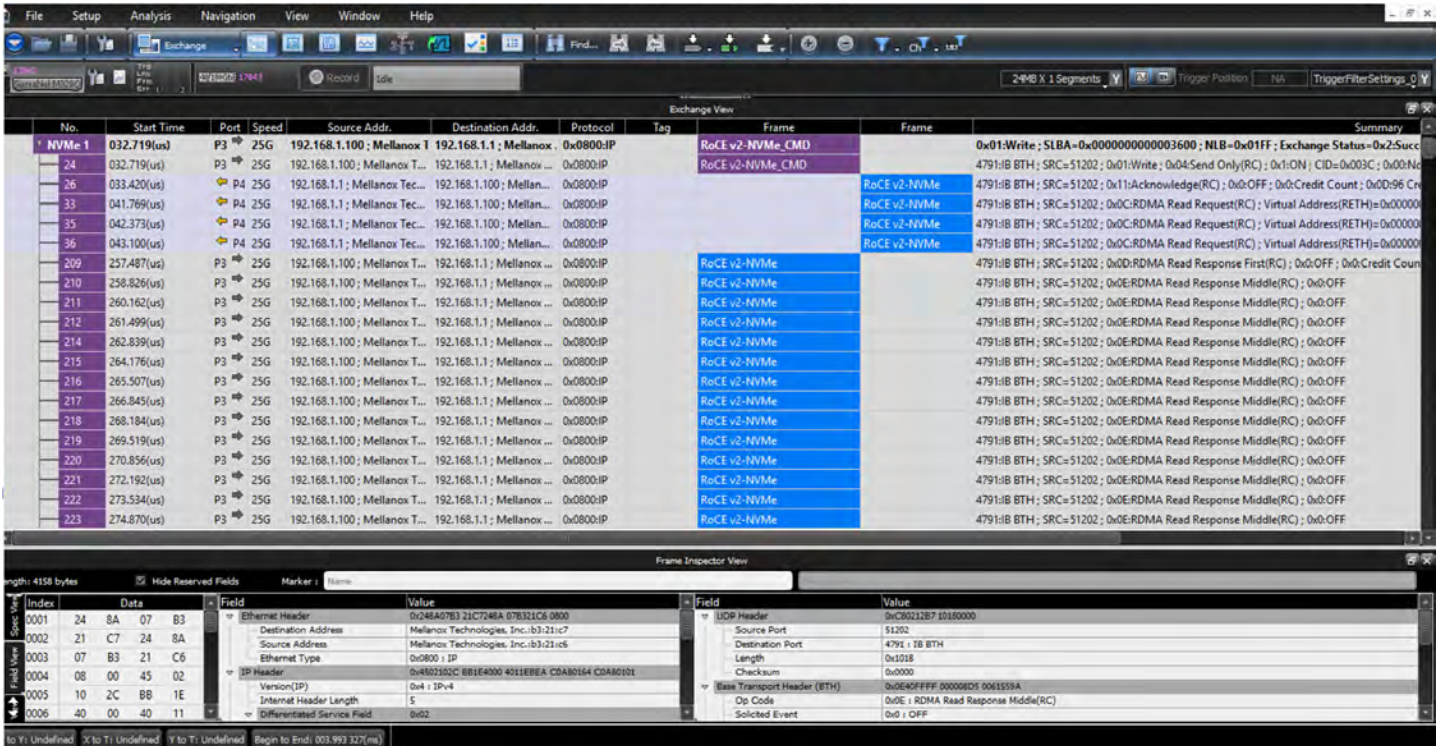

Figure G.11: Example of New Trace with Changes
- See Figure G.11 for an example of a new Trace with changes.